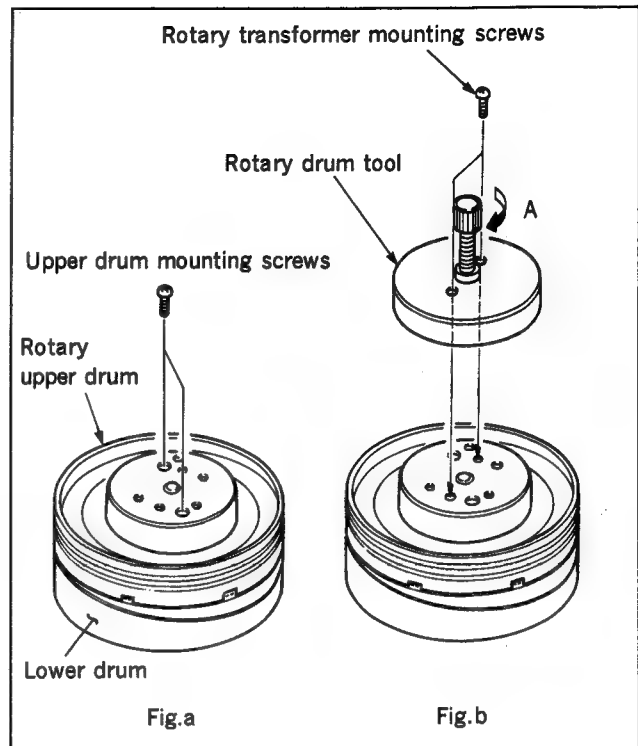

Fig. 4-2-4 Rotary upper drum removal
6. Rotary upper drum removal (Fig. 4-2-4)